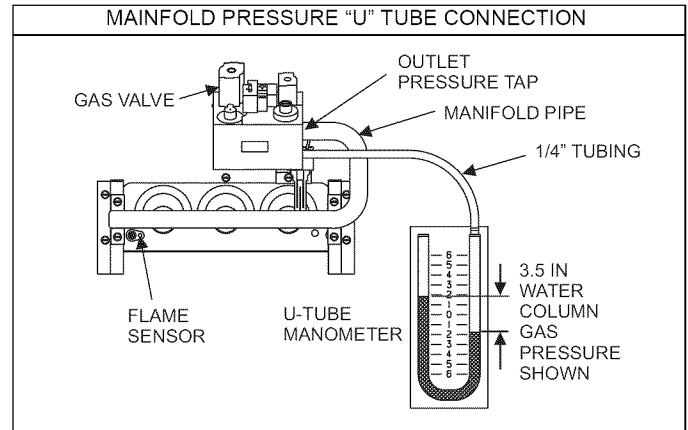

FIGURE 23: Reading Gas Pressure
4. Use the 4" (10.2 cm) piece of 1/8" (0.3 cm) tubing to connect the positive side of the manometer to the gas valve pressure reference port. Refer to Figure 23 for connection details.